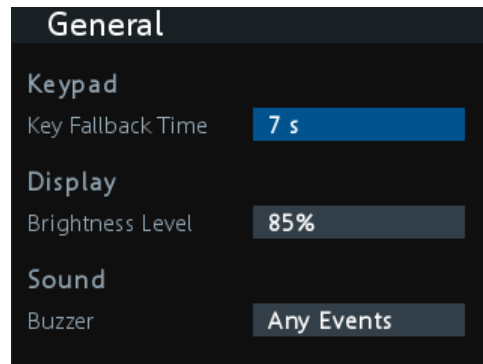

Figure 7-2: General dialog
- ▶ Select [Menu] > "Device" > "General" to set general instrument settings. The R&S NGA100 displays the "General" dialog. See Figure 7-2.